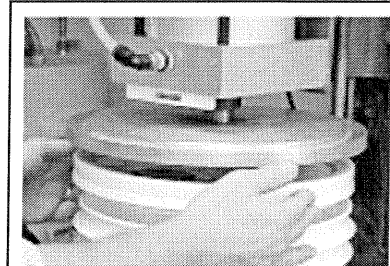

FIGURE 1
1. Begin by placing the cover over the pail ensuring that any fitment closure is aligned properly between the handle bails. (fig. 1)